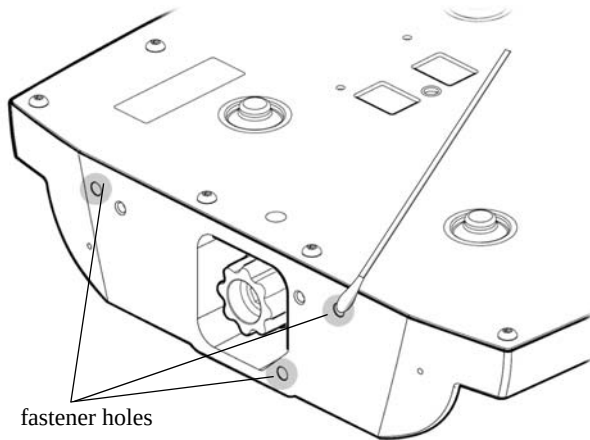

Figure 8-4: Remove Thread Lock Compound from Fastener Holes
4. Completely remove thread lock compound from gearbox fastener holes. Use cotton swabs to thoroughly clean excess thread lock compound from internal threads. First use window cleaner, then isopropyl alcohol, to remove thread lock compound. See Figure 8-4.